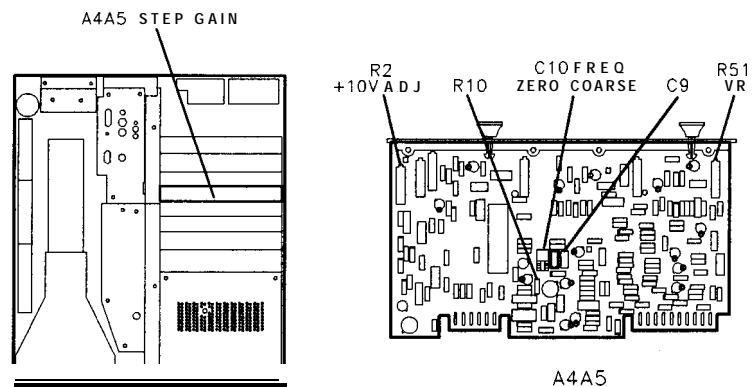

Figure 3-49.
36. Adjust A4A5R51 VR for MKR A level of +0.10 dB. See Figure 3-49 for location of adjustment.
40. Adjust A4A5C10 FREQ ZERO to peak signal trace on CRT. See Figure 3-49 for location of adjustment.
If **A4A6A1C31** has insufficient adjustment range, increase the value of factory-select resistor **A4A5R10**. See Figure 3-49 for the location of **A4A5R10**. Refer to Table 3-3 for the acceptable range of values for **A4A5R10** and to Table 3-4 for HP part numbers.